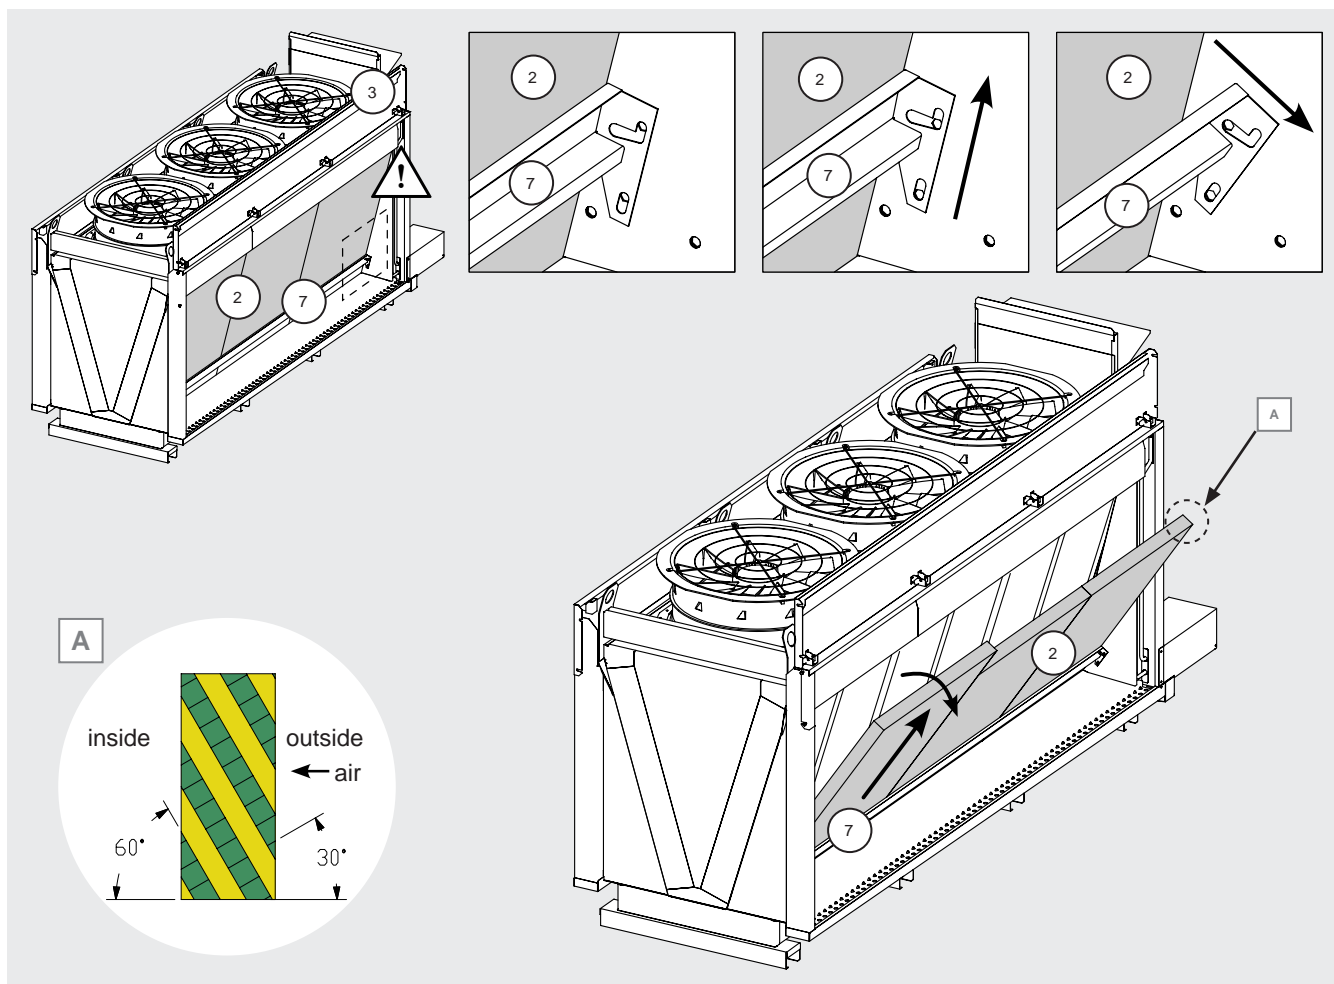

Figure 25
- 12.11.23 Pull the cross bar (7) upwards and then outwards, making it rotate. Pay attention: this will cause the cardboard panel (2) to tilt. See Figure 25.
- 12.11.26 Pay attention to the installation direction of the panels. See Figure 25 A.